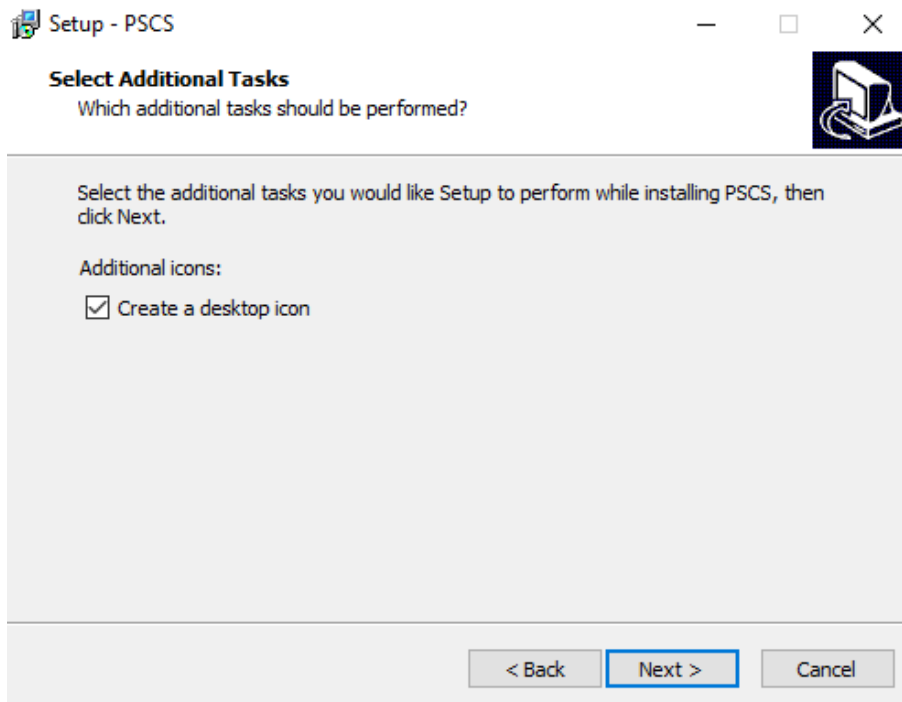

Figure 7.7
7. Check the box if you would like to create a desktop shortcut and click “Next” to continue. **Figure 7.7**